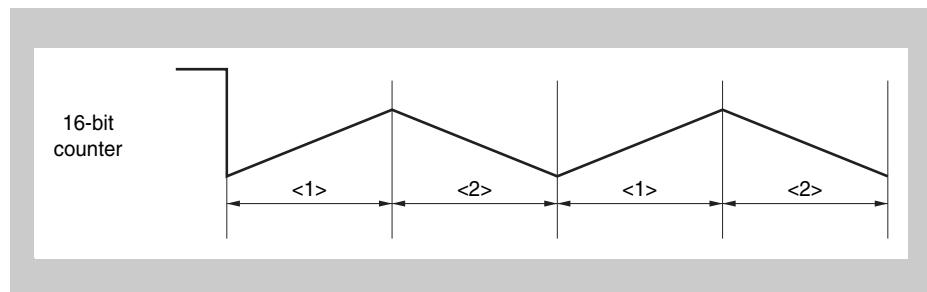

Figure 22-37 Basic Operation of 16-Bit Counter
*Figure 22-38 to Figure 22-39* show an example of rewriting the TABnCCR0 register while the 16-bit counter is counting up (during period <1> in *Figure 22-37*). *Figure 22-40* shows an example of rewriting the TABnCCR0 register while the counter is counting down (during period <2> in *Figure 22-37*).